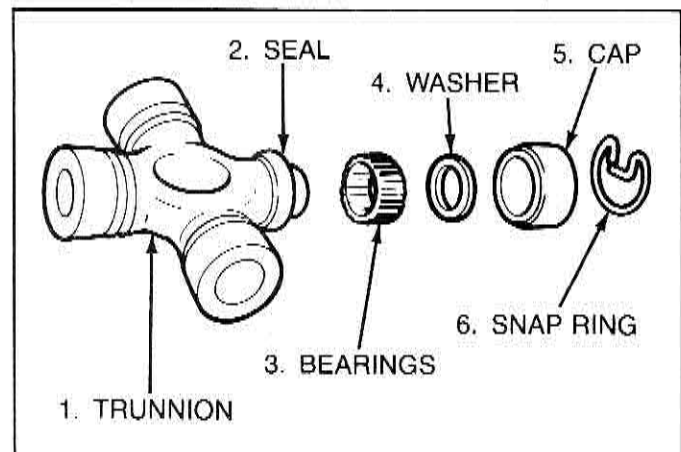

Figure 4-2 — Universal Joint-Exploded View
The simple universal joint is basically two Y-shaped yokes connected by a cross member called a spider. The spider is shaped like an "X", and arms that extend from it are called trunnions. (See Figure 4-2.) The spider allows the two yoke shafts to operate at an angle to each other.
Generally, the propeller shaft and universal joints require little maintenance. Periodic inspection is recommended, however, for proper propeller shaft balance and universal joint lubrication. If area around caps appears to be excessively dry, it may indicate a need for bearing relubrication or universal joint replacement. (See Figure 4-2.) A failing universal joint often squeaks on start-up or “klunks” with direction change.
- U-joint has a missing needle bearing. This situation usually creates a "snapping" noise under load as the needles straighten under load. See Figure 4-2 in this section of the manual.